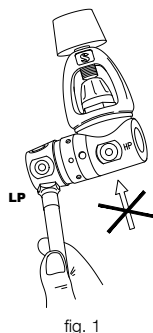

fig. 1
Connect the low pressure (LP) hose of the Power Inflation Valve or A.I.R. 2 to an unused LP port of the first stage, **that must have the same thread** (fig. 1).